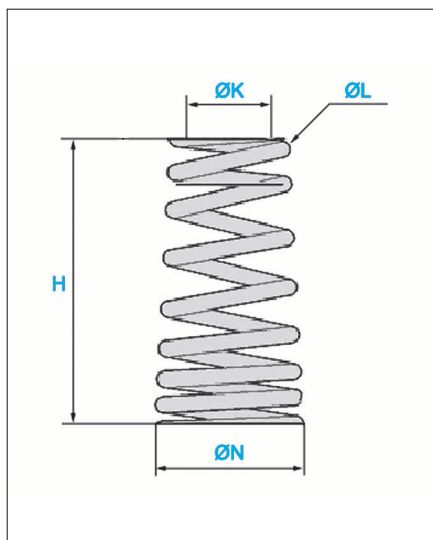

FIG. 6
**RESSORTS DE SOUPAPES (FIG.6)**
**Cotes des ressorts de soupapes (Fig.6)**